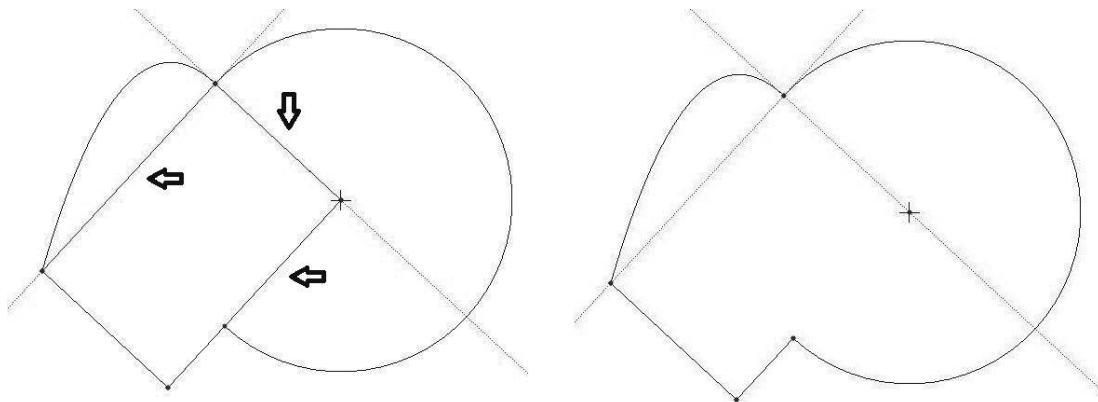

Figure 3-36 Review
Step 35: Draw an angled rectangle. Use  to draw a conic curve on the upper left side of the rectangle. See the left side of Figure 3-36.
Step 37: Use  to remove the interior lines. See the right side of Figure 3-36. How did you do? Review the tools if necessary.
The phantom lines shown below at the folds were created using the LINE tool, then *selecting* the line, holding down RMB until **Menu** pops up, *selecting Properties* from the pop-up menu, changing SOLIDFONT to PHANTOMFONT, *picking Apply*, then *picking Close*. Is it easier to determine what shape is created with the phantom lines added? See Figure 3-36.